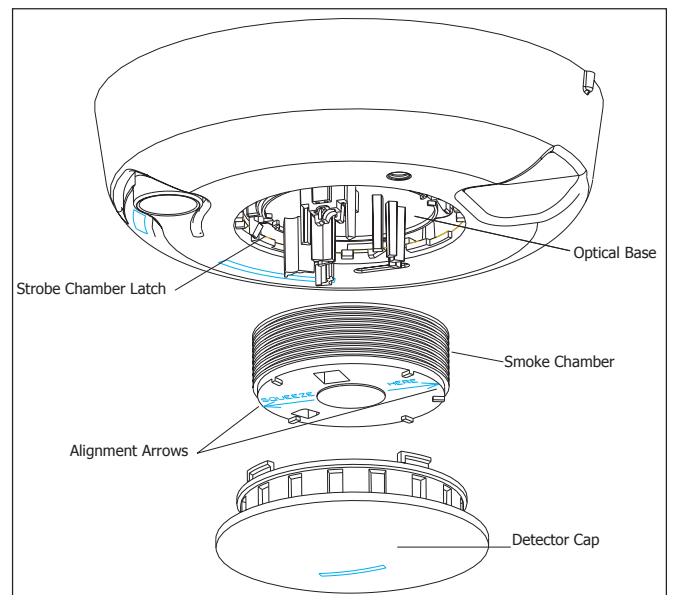

Figure 7: Detector Parts
4. Press the sides of the smoke chamber in where indicated by the alignment arrows. Pull the chamber up and away from the detector and discard. See Figure 7.